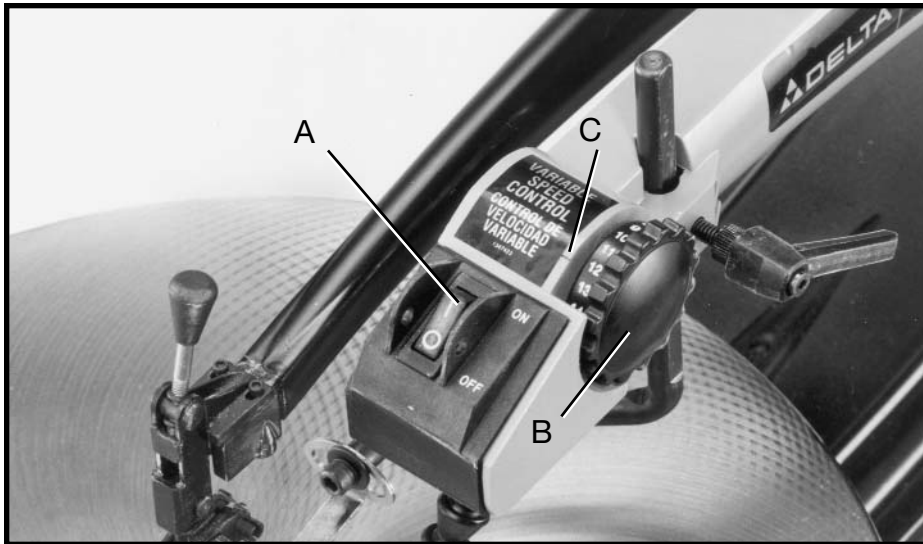

Fig. 16
The on-off switch (A) Fig. 16, is located on the top of the arm, as shown. To turn the saw "ON" push down on the "ON" portion of the switch and to turn the saw "OFF" push down on the "OFF" portion of the switch.
Your scroll saw can be operated at speeds of 300 to 2000 cutting strokes per minute by rotating control knob (B) Fig. 16. With the control knob (B) rotated all the way toward the front of the machine the speed will be 300 cutting strokes per minute and with the control knob (B) rotated all the way to the rear, the speed will be 2000 cutting strokes per minute. A series of numbers are provided on the control knob, as shown, and a witness line (C) is provided on the arm to be used for reference.